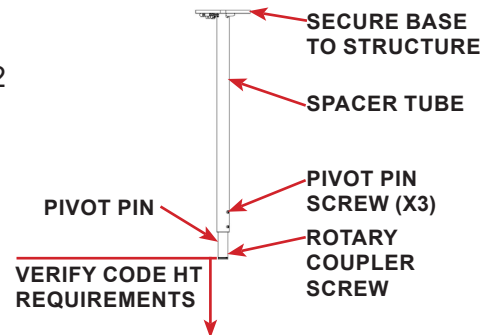

FIGURE 2.22 - Spacer Tube
STEP 1: Measure the distance between the floor surface to the required height on the post. Mark cut-line on post. Refer to FIGURE 2.22
STEP 2: Remove the three threaded pins holding the pivot pin in place. Refer to FIGURE 2.22